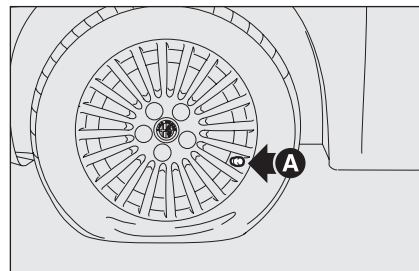

fig. 13
- set the wheel to be repaired with valve **A-fig. 13** in the position shown in the figure, **then pull up the handbrake**, take the quick tyre repair kit and put it on the ground near the wheel to be repaired;